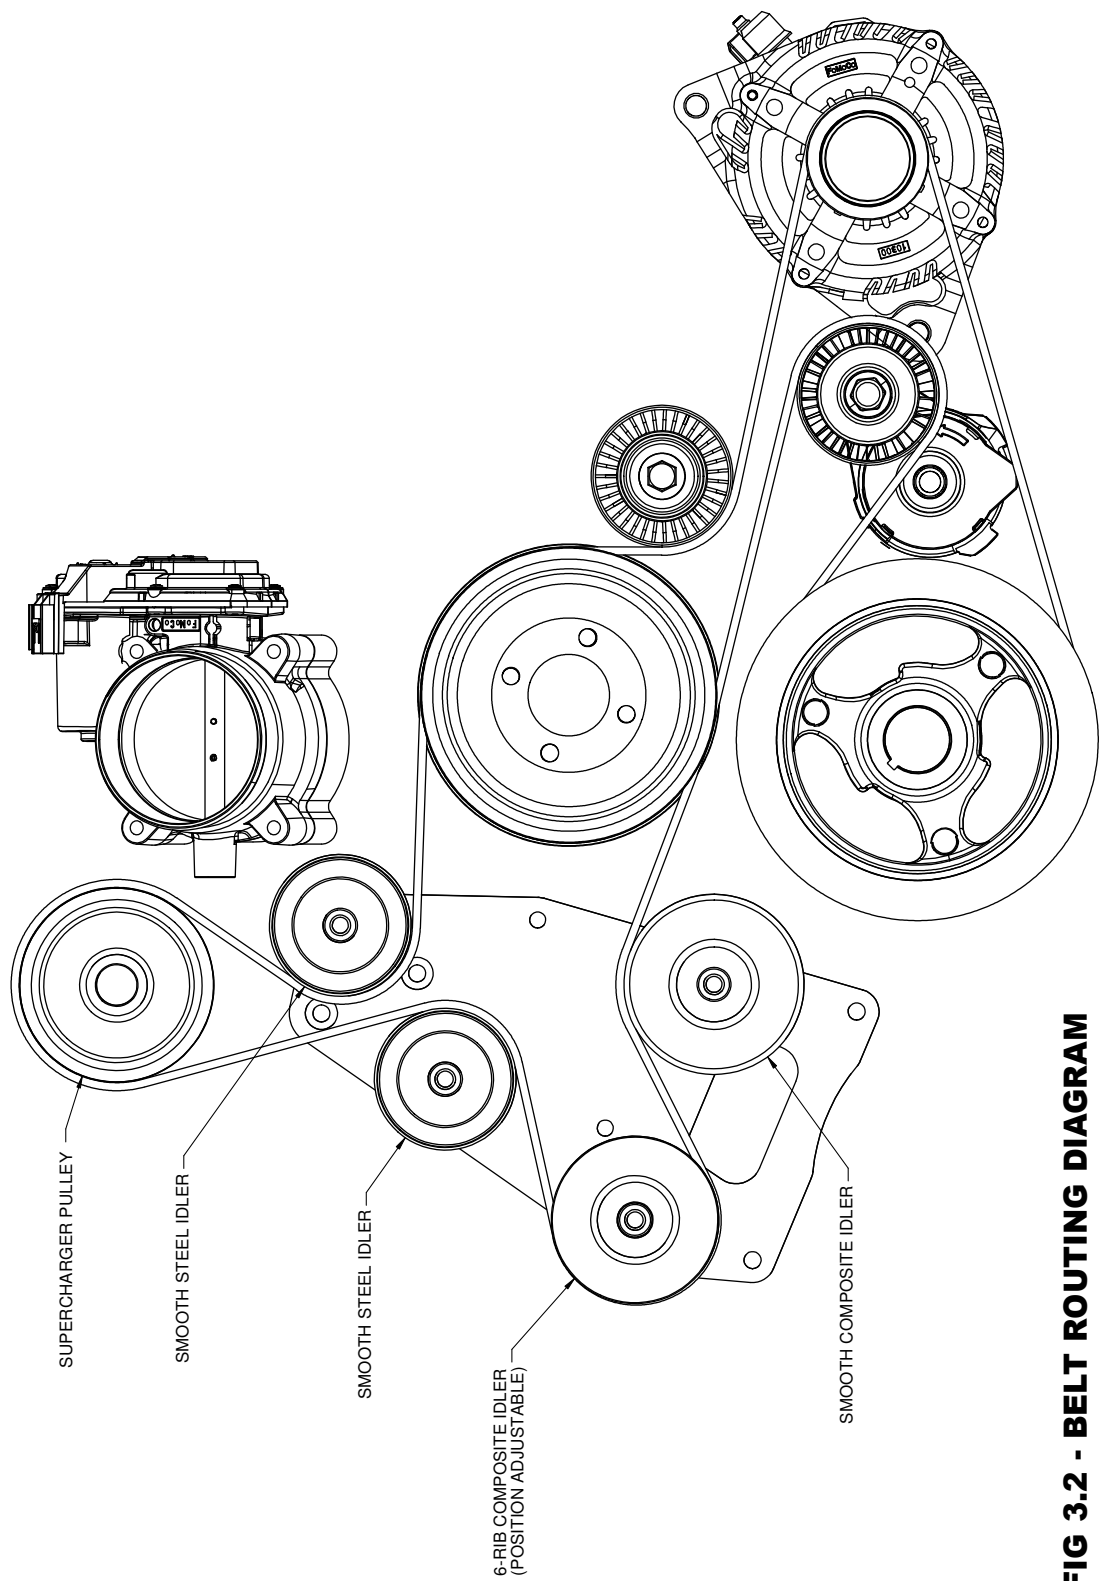

FIG 3.2 - BELT ROUTING DIAGRAM
- S. Use the Belt Routing Diagram (Fig. 3.2) on Pg. 20 to route the new drive belt. Once in position, use a 15mm wrench to rotate the belt tensioner counter-clockwise, then slide the new drive belt over the smooth idler on the tensioner. Once the belt is in position & properly routed, release the tension on the belt tensioner.